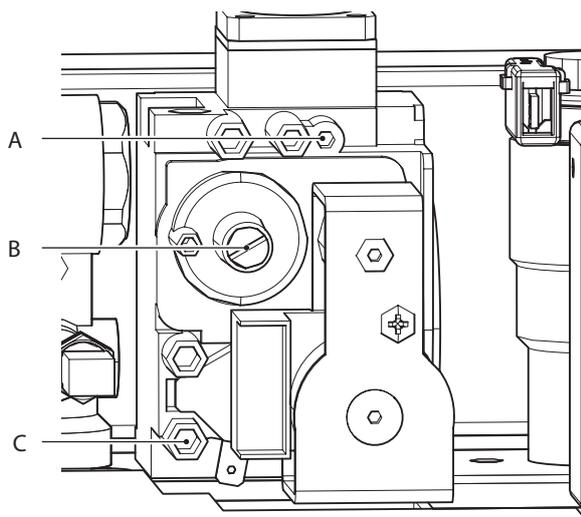

Figure 15.16
- With the boiler shut off (out of service), check the supply pressure at point C in Figure 15.16 and compare the read value with the value in the Gas supply pressure table in the section “Technical Information” page 9.
- Carefully reclose the tapping point C in Figure 15.16.
- To calibrate the boiler CO_2 (burner gas pressure) completely unscrew the protective brass cap B and turn the Allen screw \varnothing 4 mm below Figure 15.16, turning it clockwise increases the CO_2 .
- If the two values do not coincide, turn the RQ maximum adjustment screw (A in Figure 15.16) on the gas valve and calibrate the CO_2 to the same value shown in the table in the section “Technical Information” page 9. Turning it clockwise decreases the CO_2 .